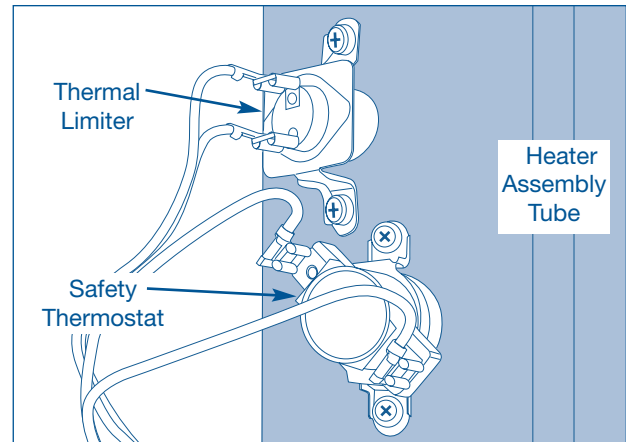

Figure 4-47.
3. Using a #2 square bit screwdriver, extract the screws securing the sensors to the combustion tube. (See Figure 4-47)